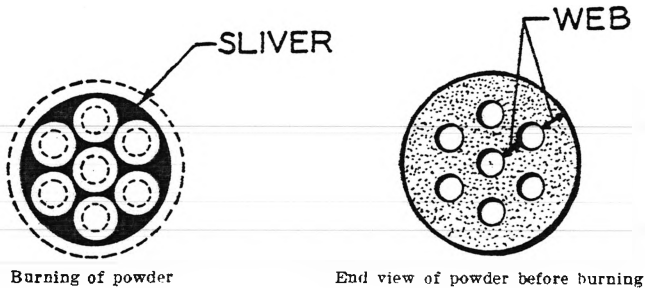

FIG. 15.—Grain of powder
(2) It is assumed that all the exposed surfaces of the grain of powder begin to burn at the same time. Figure 15 shows the end view of a typical grain of powder, and also the progressive burning action until the grain is practically consumed. The dotted lines show the original shape of the grain of powder. The small triangular sections are called "slivers." These slivers will burn if the powder is properly designed.
(3) The maximum allowable pressure in the 75-mm. guns is 36,000 pounds per square inch, and the muzzle velocity varies as shown in *a*(1) above. This powder is affected by moisture, and great care should be taken to have the assembled round kept in a dry condition.